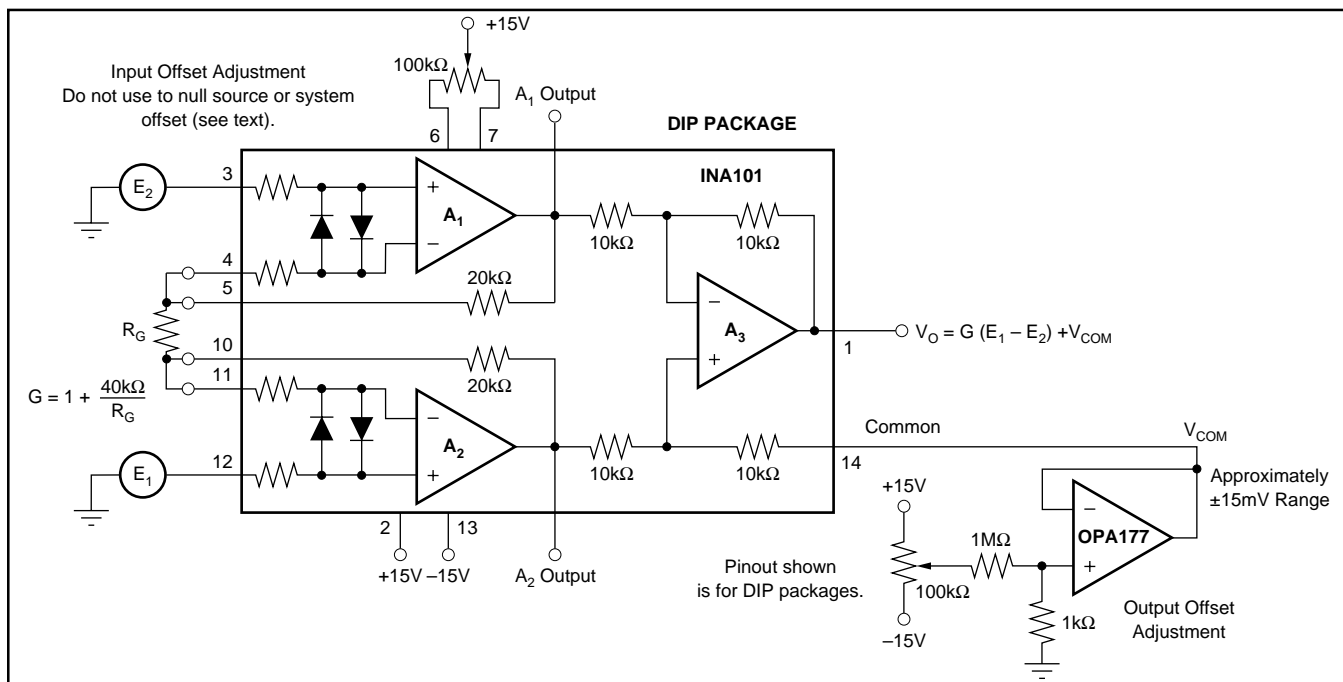

FIGURE 2. Optional Trimming of Input and Output Offset Voltage.
The stability and temperature drift of the external gain setting resistor, R_G , also affects gain. R_G 's contribution to gain accuracy and drift can be directly inferred from the gain equation (1). Low resistor values required for high gain can make wiring resistance important. Sockets add to the wiring resistance which will contribute additional gain error (possibly an unstable gain error) in gains of approximately 100 or greater. The gain sense connections on the DIP and SOL-16 packages (see Figure 2) reduce the gain error produced by wiring or socket resistance.
The INA101 is laser trimmed for low offset voltage and drift. Most applications require no external offset adjustment. Figure 2 shows connection of an optional potentiometer connected to the Offset Adjust pins for trimming the input offset voltage. (Pin numbers shown are for the DIP package.) Use this adjustment to null the offset voltage in high gain ($G \geq 100$) with both inputs connected to ground. Do not use this adjustment to null offset produced by the source or other system offset since this will increase the offset voltage drift by $0.3\mu\text{V}/^\circ\text{C}$ per $100\mu\text{V}$ of adjusted offset.
voltage can be adjusted with the optional trim circuit connected to the Common pin as shown in Figure 2. The voltage applied to Common terminal is summed with the output. Low impedance must be maintained at this node to assure good common-mode rejection. The op amp connected as a buffer provides low impedance.